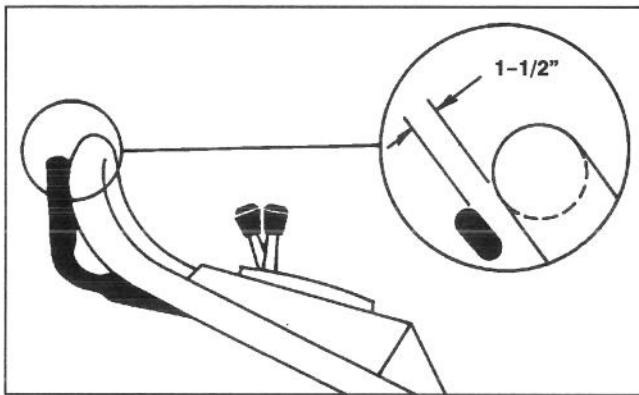

Figure 24
3. CHECK ADJUSTMENT—Adjustment is correct when control bar is about 1-1/2 inches from handle (Fig. 24) and wheels start to turn freely.